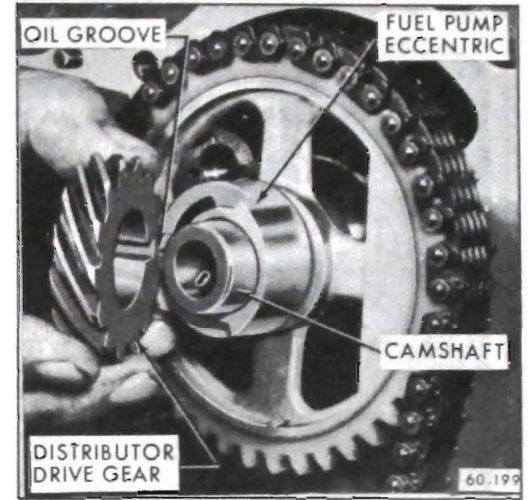

Figure 60-244 Fuel Pump and Distributor Drive Gear Installation-350 Cu. In.
3. Remove bolt and special washer retaining camshaft distributor drive gear and fuel pump eccentric to camshaft forward end. Slide gear and eccentric off camshaft. See Figure 60-244.
5. Slide fuel pump eccentric on camshaft and Woodruff key with oil groove forward. See Figure 60-244.
6. Install distributor drive gear. See Figure 60-244.